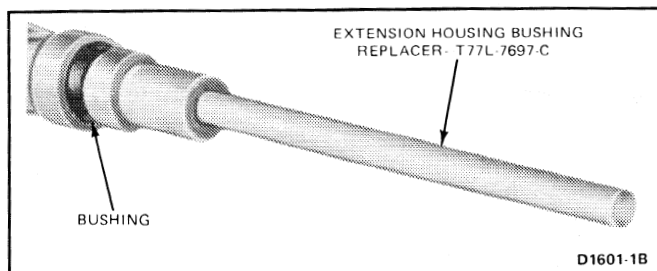

FIG. 13 Installing Extension Housing Bushing
1. When installing a new bushing use the special tool T77L-7697-C shown in Fig. 13.